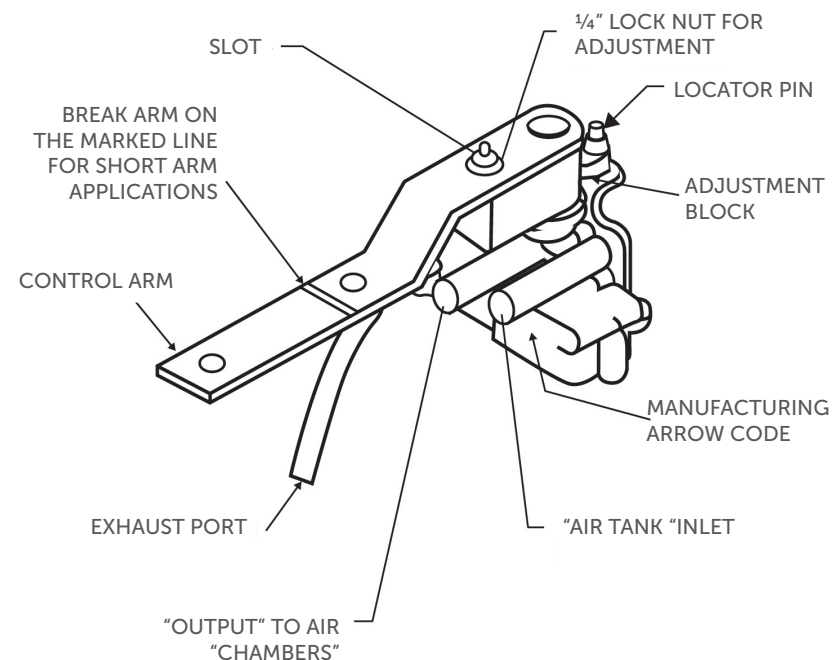

Figure 15
1. Most Hendrickson air suspensions are shipped with the height control valve holder pre-assembled at the edge of the hanger. Check the appropriate requirements of the length of the control lever and adjust it correctly (the short lever interrupts or suspends the supply at the mark, *(See Figure 15)*). Check the clamping screws of the height control valve and the HT universal bracket before tightening.
3. The outlet port located at the front on the valve body must always be connected to the air chambers (See *Figure 15*). The pipe must have the diameter according to the valve connections. (1/4" E.D. or 3/8" E.D.)
4. The outlet port located behind the valve body must be used with the connection to the supply tank (See *Figure 15*). The pipe must have the diameter according to the valve connections. (1/4" E.D. or 3/8" E.D.)
5. A plastic locator bolt is included with the height control valve to help simplify installation and adjustment of the handling height. (See *Figure 15*).